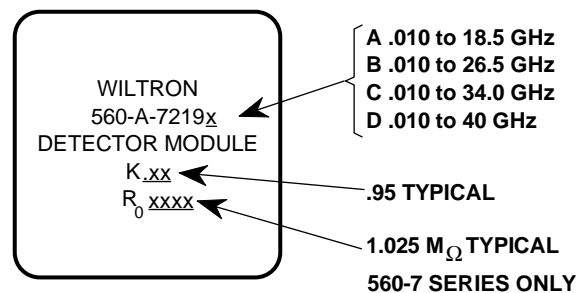

Figure A-6. Replacement Diode Module Container Label
- Step 8** Obtain the “K” value from the replacement diode container label (Figure A-6).